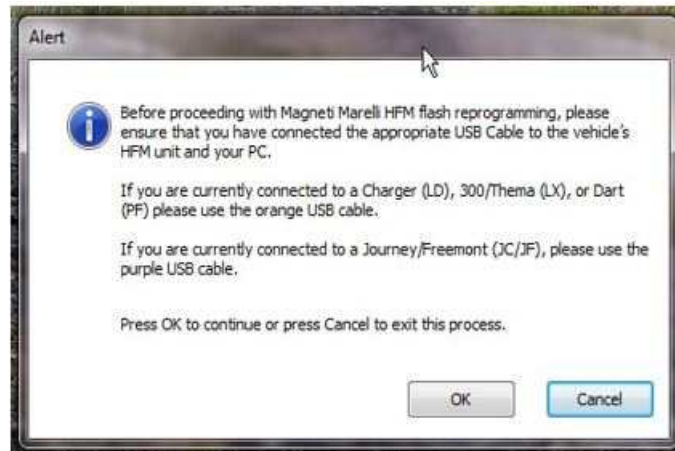

Fig. 6
7. Magneti-Marelli HFM USB flash (MYs 2011 - 2013) requires special USB cables (Fig. 6) . Before proceeding, ensure that you have the correct cables available. For LD and LX vehicles, you will need the orange cable (wiTECH essential tool #500). For JC vehicles, you will need the purple cable (wiTECH essential tool #501). Click the “OK” button.